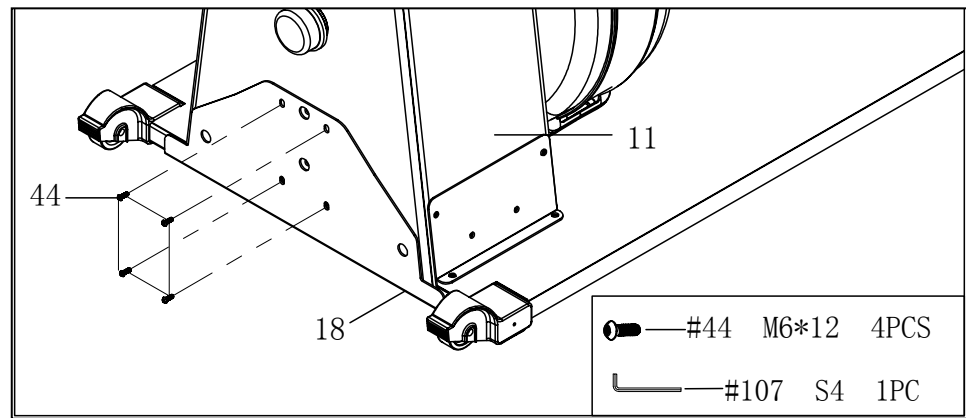

Fig. 8
4. Fix the strengthening plate (18) to the main frame (11) with four bolts (44) (Fig. 8).
5. Position the main frame (11) in a vertical position.